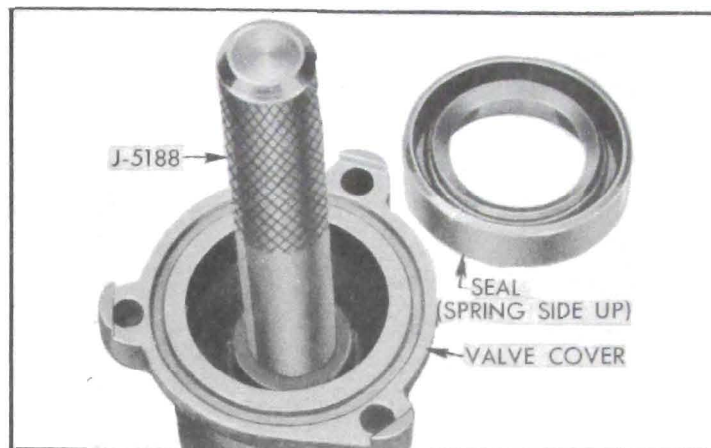

Figure 7-12—Installing Valve Cover Seal
17. Remove the seal and the control shaft lower bearing from hydraulic valve cover with a punch. Press a new bearing into cover. Use Installer J 5188 to press the new seal into cover, with spring side of seal outward toward shoulder of tool. See figure 7-12.